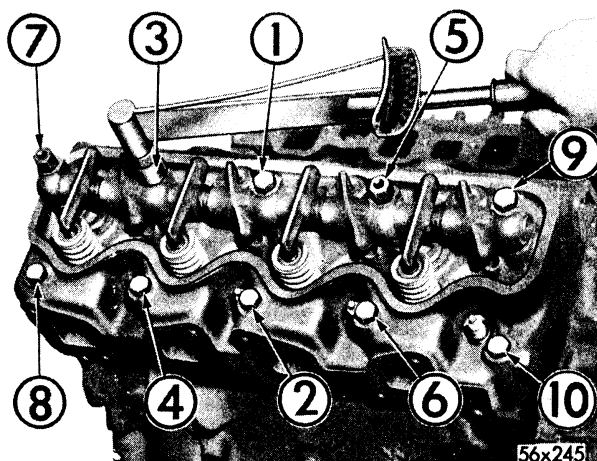

Fig. 8—Tightening Cylinder Head Bolts (SpitFire)
7. Insert cylinder head bolts into rocker arm support brackets and place rocker arm assemblies in position on head, lining up all push rods to their respective rocker arms. Starting at top center, tighten all cylinder head bolts to 60-80 foot-pounds torque, in sequence shown in Figure 8 and 9. Then repeat the procedure, tightening all head bolts to 85 foot-pounds torque. Place new valve tappet cover gaskets in position, and install tappet cover. Tighten bolts to 50 inch-pounds torque. Install crankcase breather tube on tappet cover and insert oil level indicator (dip stick) tube into position. Install new cylinder head cover gasket and install cover. Tighten nuts and bolts to 30 inch-pounds torque. On FirePower engines slide spark plug tube seals over tubes, and install in position in heads. Check spark plugs for .035 inch gap and install plugs, being careful not
Position rocker arm assemblies. Install cylinder head bolts. Tighten bolts 60-80 foot-pounds torque in sequence shown in Figures 8 and 9. Then repeat the procedure, tightening all head bolts to 85 foot-pounds torque.